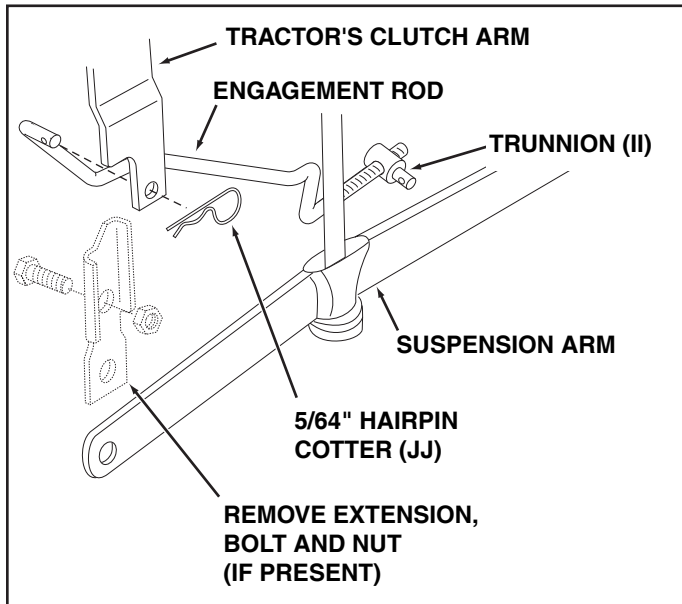

FIGURE 29
STEP 29: (SEE FIGURE 29)
- Screw the trunnion (II) onto the end of the snow thrower engagement rod.